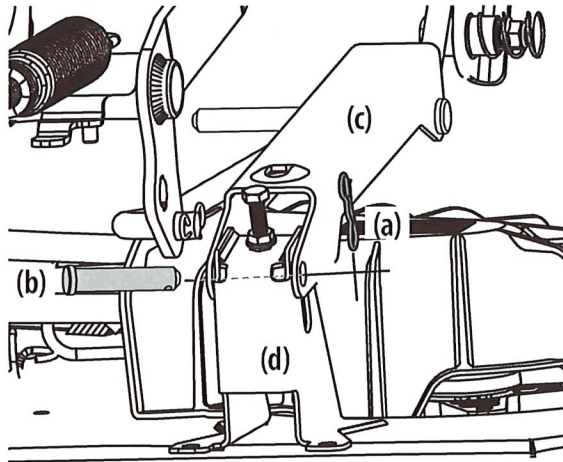

Figure 35
- a. Remove the two bow-tie pins (a) from the clevis pins (b) that secure the lift link brackets (c) to the rear deck lift brackets (d) on the deck. Remove the clevis pins (b). See Figure 35.